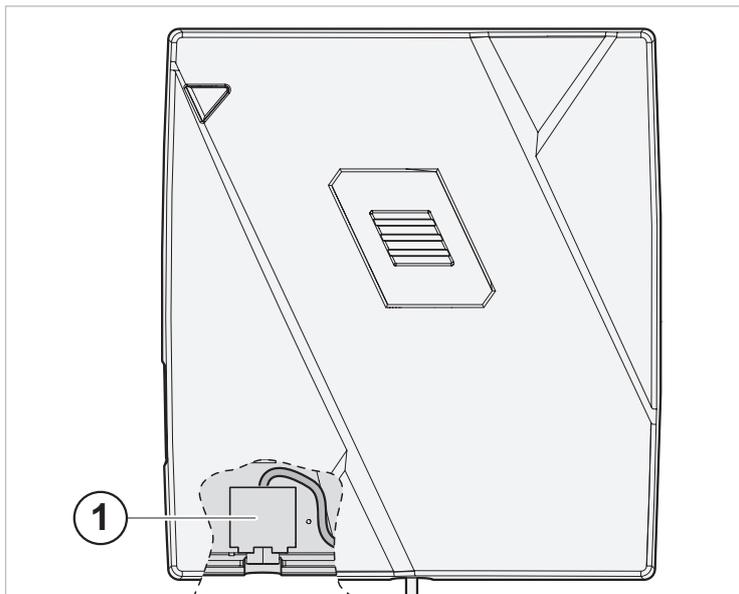

Fig. 10 Connecting the 3.5 mm mono jack plug
- 5 Pull cord (or optional cable strain relief) (Fig. 10)